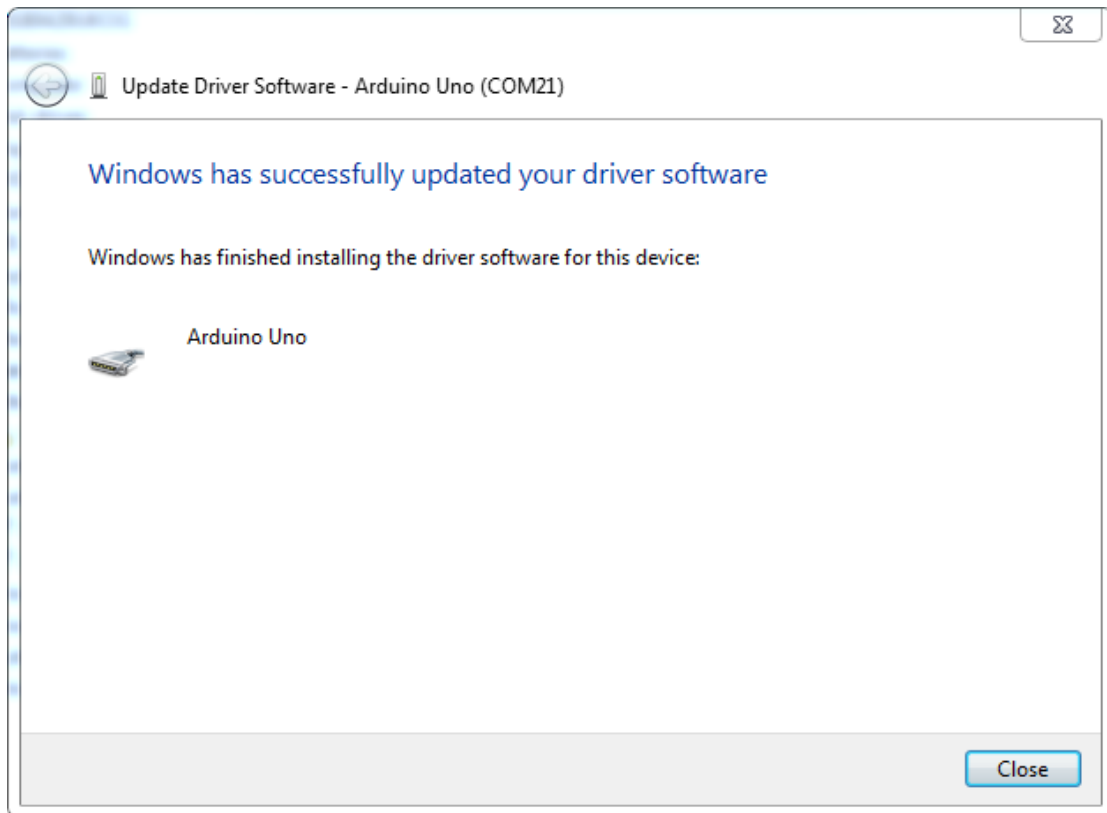

Figure4-7 Driver installation completed
- 4) If you have already installed it, the interface shown in Figure 4-7 below will appear, automatically notifying you that the drive is successful.